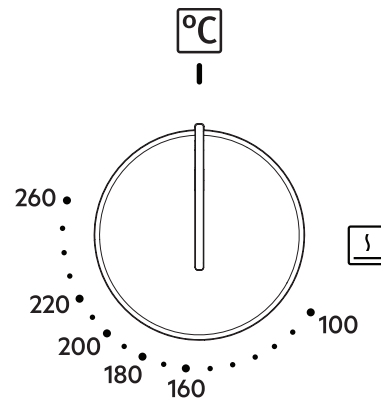

Figure 8: Oven Temperature Knob
4. Turn the oven temp knob to the desired temperature position (Figure 8).